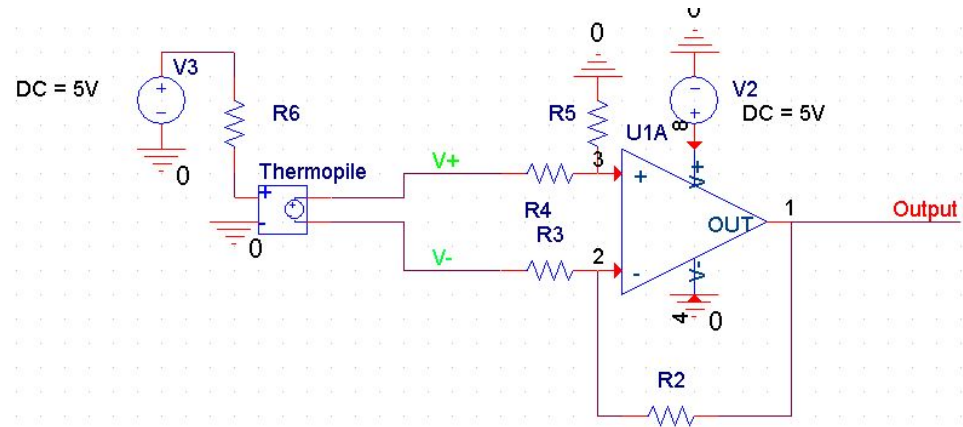

Figure 5: Amphenol Advanced Sensors ZTP-135SR- Thermopile Sensor
- “Figure 5”, <https://www.digikey.com/product-detail/en/amphenol-advanced-sensors/ZTP-135SR/235-1330-ND/3974095> Accessed: 23 October 2017